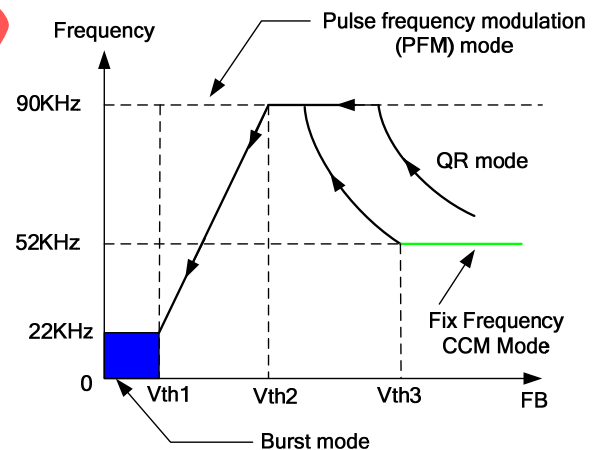

Figure 1
■ At full load conditions ($FB > V_{th3}$, Figure 1), there are two situations: firstly, if the system input is in low line input range, the IC operates in fix frequency (52KHz @ $R_I = 20K \text{ Ohm}$) CCM mode. Thus, small size transformer can be used with high power conversion efficiency. Secondly, if the system input is in high line input range, the IC operates in QR mode. In this way, high power conversion efficiency can be achieved in the universal input range when system is at full loading conditions.
■ At normal operating conditions ($V_{th2} < V_{FB} < V_{th3}$, Figure 1), the system operates in QR mode. The frequency varies depending on the line voltage and the load conditions. Therefore, the system may actually work in DCM when 90KHz frequency clamping is reached.
■ At light load conditions ($V_{th1} < V_{FB} < V_{th2}$, Figure 1), the system operates in PFM (pulse frequency